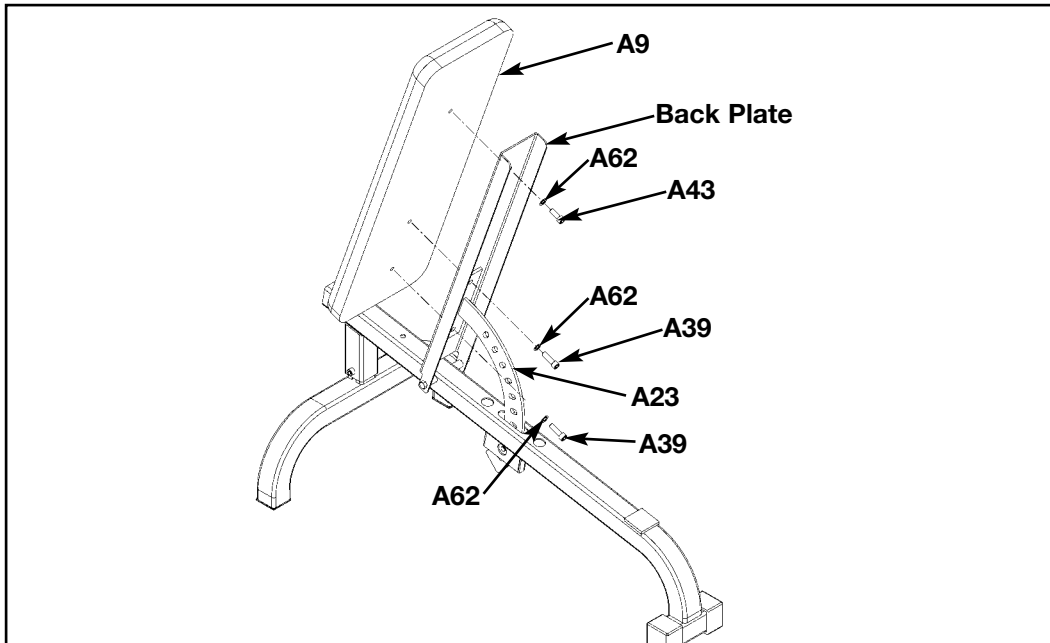

Figure 7
- F.** Insert cushion plate adjustment bar (#A23) into hole in bench as shown in Figure 7.
- I.** Insert one SHCS .375-16 x 1.00 (#A43) and one internal tooth lockwasher (#A62) through cushion plate and back cushion (in the top hole) as shown in Figure 7.